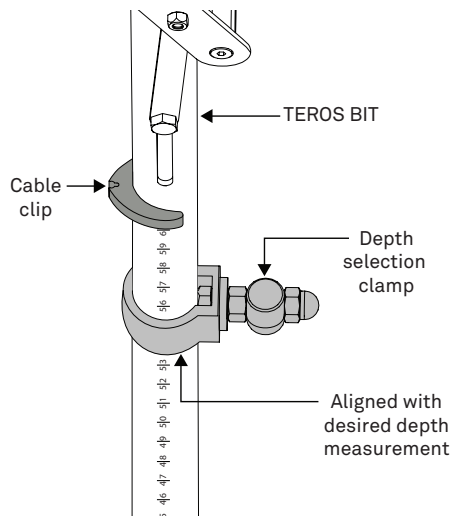

Figure 16 Depth selection clamp
1. Attach the depth selection clamp at the desired depth marked on the handle or extension rod (Figure 16).